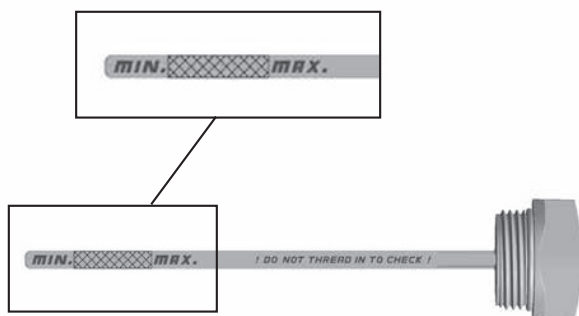

Fig. 3 Dipstick
6. Remove the dipstick from the tank again and check the level. The oil level must be in the area between the MIN and MAX markings on the dipstick (Ref. Fig. 3).